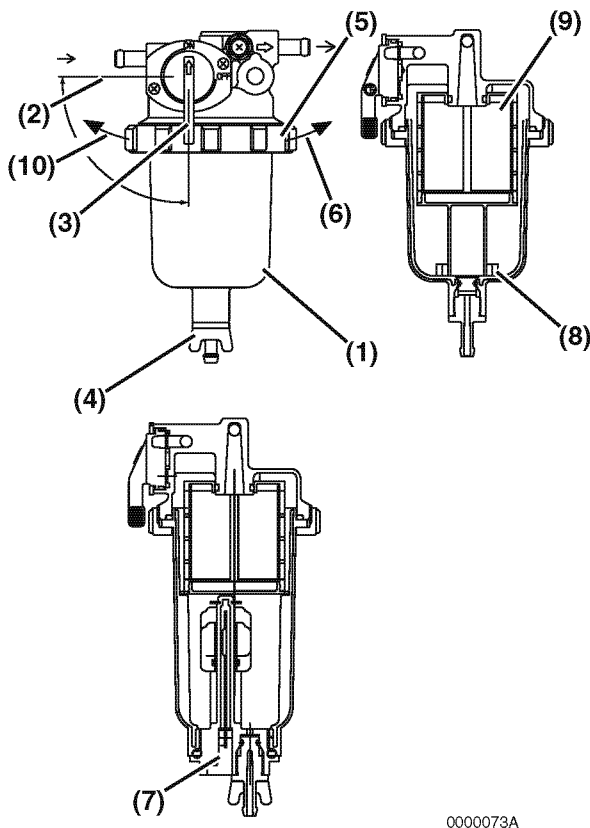

Figure 5-13
1. Position an approved container under the cup (**Figure 5-13, (1)**) of the fuel filter / water separator to collect the contaminants.
2. Close (**Figure 5-13, (2)**) the fuel cock (**Figure 5-13, (3)**).
3. Loosen the drain cock (**Figure 5-13, (4)**) and drain the contaminants. *See Drain Fuel Filter / Water Separator on page 5-6.*
4. Turn the retaining ring (**Figure 5-13, (5)**) to the left (**Figure 5-13, (10)**) and remove the cup (**Figure 5-13, (6)**). If equipped, disconnect the sensor wire (**Figure 5-13, (7)**) from the cup before removing the cup.
6. Remove the float ring (**Figure 5-13, (8)**) from the cup. Pour the contaminants into the container and dispose it properly.
7. Clean the element (**Figure 5-13, (9)**) and inside cup. Replace the element if it is damaged.
Applicable Element Part No.(Figure 5-13, (9))
11. Install the cup to the bracket by tightening the retaining ring to the right (**Figure 5-13, (6)**) to a torque of 11-15 ft lbs (15-20 N•m, 1.5-2.0 kgf•m).
13. Open the fuel cock (**Figure 5-13, (3)**).